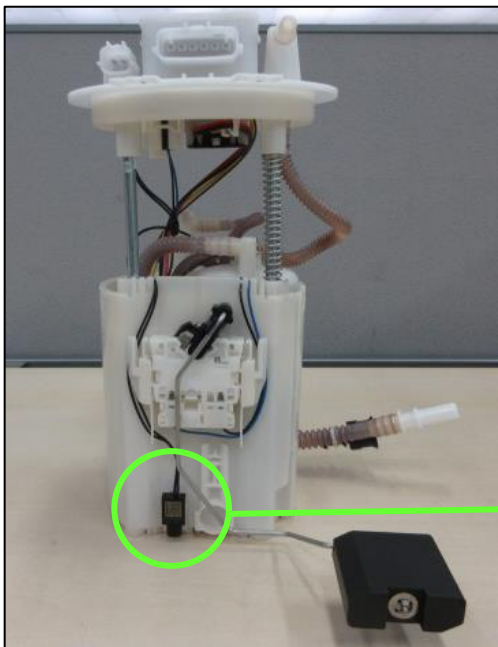
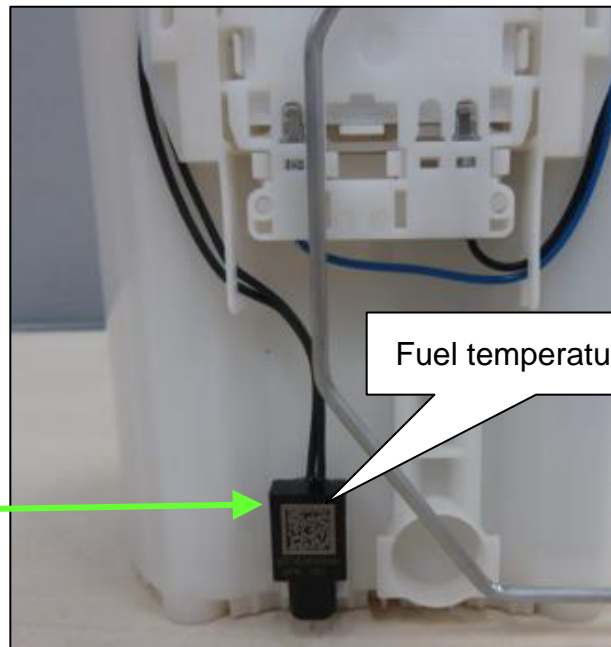

Figure 1
Figure 2
2. Confirm the position of the fuel temperature sensor attached to the fuel pump as shown in Figure 1 and Figure 2.